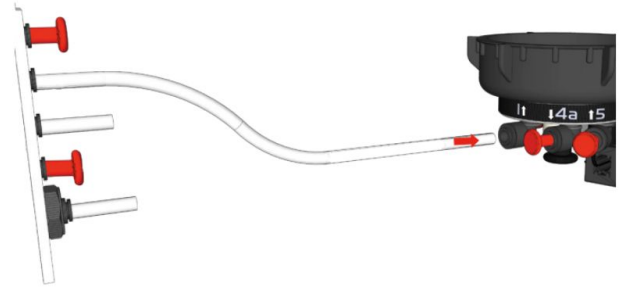

Fig 1
3. Using the tube supplied, CONNECT the Product Outlet (port 4) to Reservoir Inlet connector (port 1↑) (Fig 1)